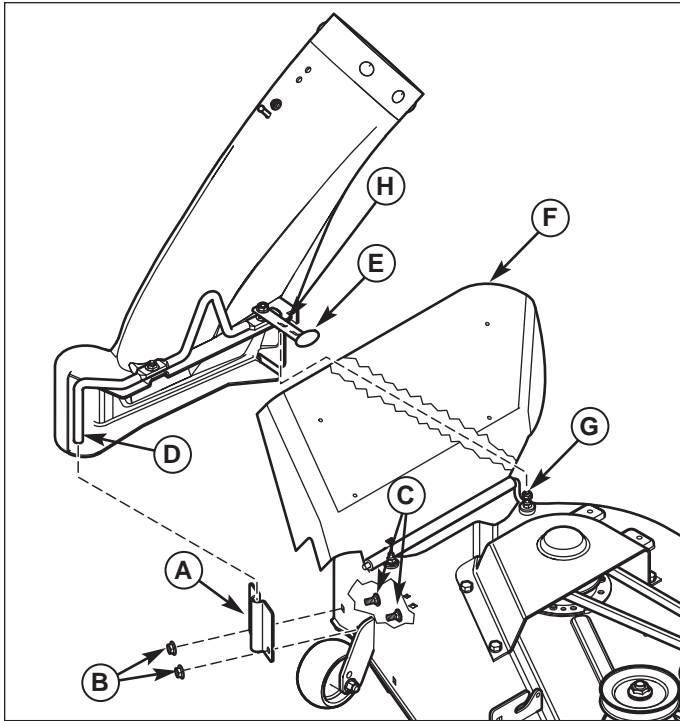

Figure 9. Install Chute
1. Install mounting plate (A, Figure 9) to mower deck as shown. Secure with 5/16-18 x 5/8 carriage bolts (C) and 5/16-18 locknuts (B).
2. Lift discharge deflector (F).
3. Insert lower chute rod (D) into mounting plate (A).
4. Pull rubber strap (E) below discharge deflector, and secure by placing hole (H) over locknut (G).